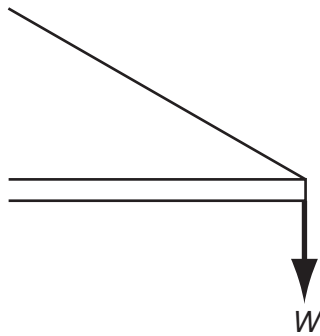

Fig. 2
- 2 Fig. 2 shows a structure. Label a strut and a tie on Fig. 2.